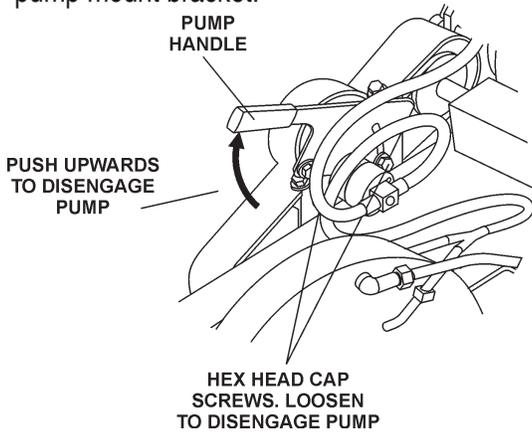

Figure 14. Pump Disengage
1. Loosen the 2 hex head cap screws (Figure 14) that secure the pump mount bracket.